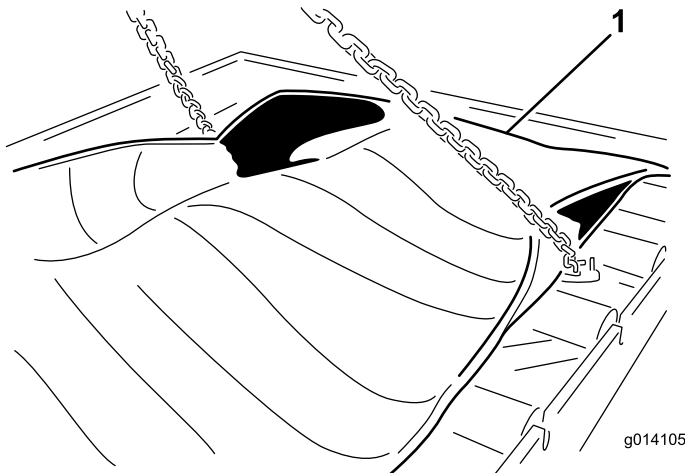

**Figure 47**
18. Remove the two option attachment brackets (Figure 47).